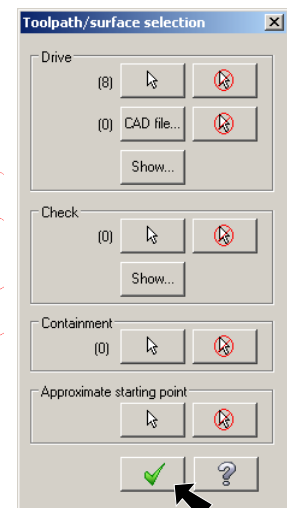

Fig. 53
Step 5. Click OK  in the Toolpath/surface selection dialog box, Fig. 53.